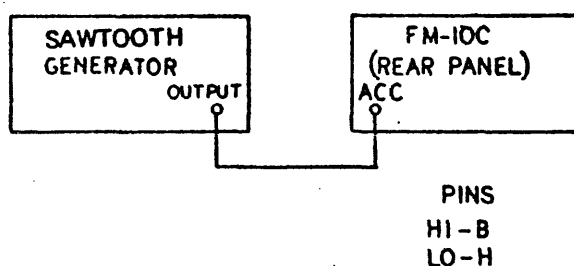

FIGURE 2-27
- b. Connect sawtooth generator to FM-10C as shown in Figure 2-27.